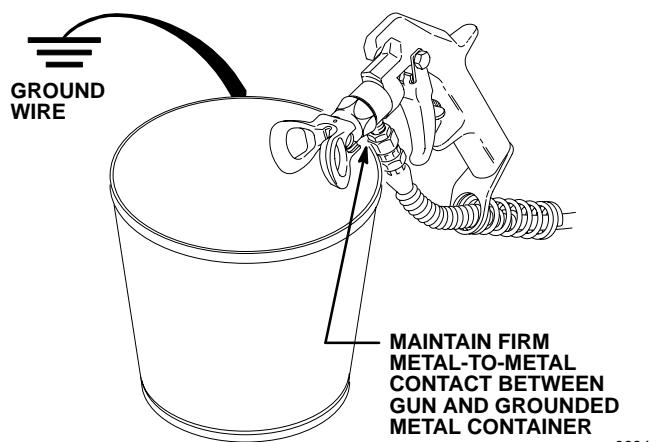

Fig 3 _____ 0664
- f. Hold a metal part of the gun firmly against a grounded metal pail. See Fig 3. Squeeze the trigger, turn the ON/OFF switch to ON, and slowly increase the pressure until the sprayer starts. Keep the gun triggered until all air is forced out of the system and the paint flows freely from the gun. Release the trigger and engage the safety latch.